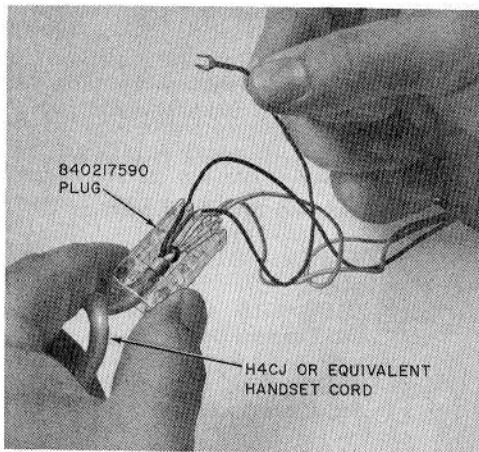

Fig. 14—Installing Spade-Tipped Handset Cords in Early Production 851- and 2851-Type Telephone Sets with G12A Handset
3.22 Installation of Spade-Tipped Handset Cords in Early Production Sets Equipped With G12A Handset (Fig. 14):